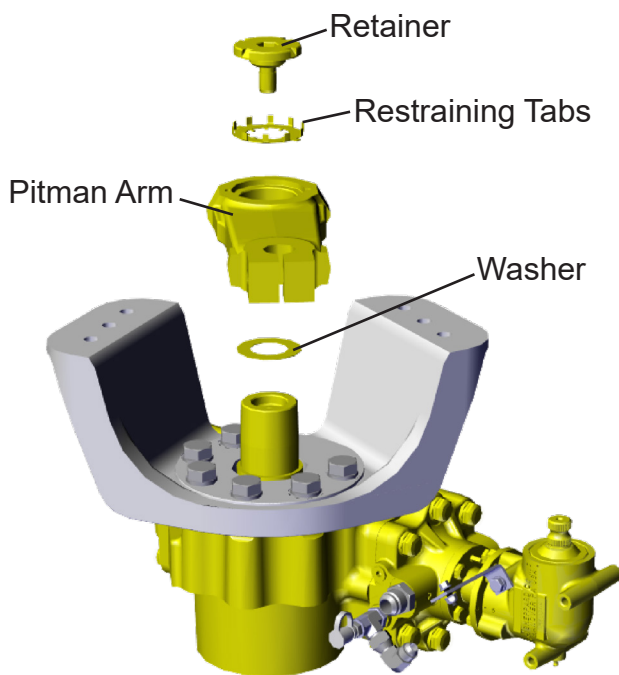

Figure 6
12. Bend the restraining tabs out of the pitman arm retainer using a punch. See Figure 6.
13. Lubricate face of the retainer with clean chassis lube to aid in removal. See Figure 6.